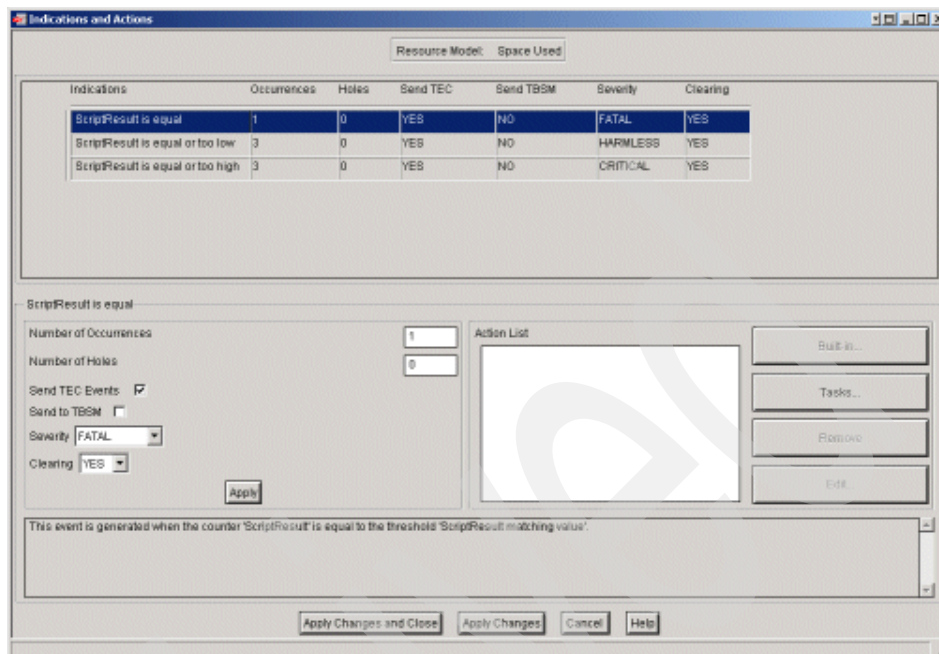

Figure 9-134 Indication selected
4. Select an indication from the top list. The bottom half of the window is undimmed as shown in Figure 9-134 on page 532 where the ScriptResult is equal indication is selected.